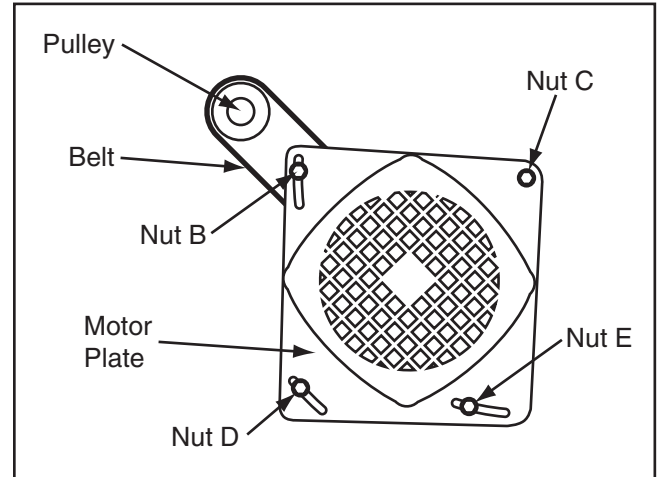

Figure 90. Main motor illustration.
2. Lift the motor so that the plate slides upward, releasing the tension from the belt, then tighten **Nut B** (**Figure 90**).